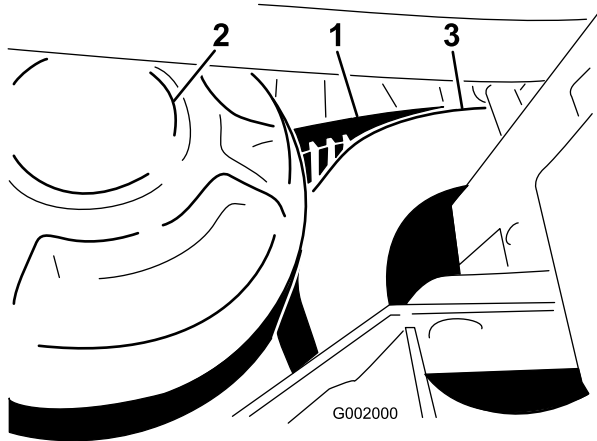

Figure 61
1. Rotate and route the belt over the secondary clutch (Figure 61).